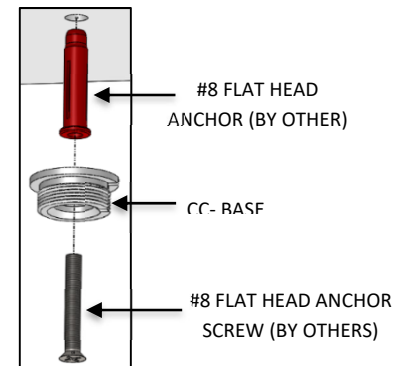

FIG. 13- HARD CEILING INSTALLATION
4. Install the CC-BASE to the #8 FLAT HEAD ANCHOR (by others) previously installed at the non-powered mounting location and secure with the #8 FLAT HEAD ANCHOR SCREW (by others) as shown in FIG. 13.